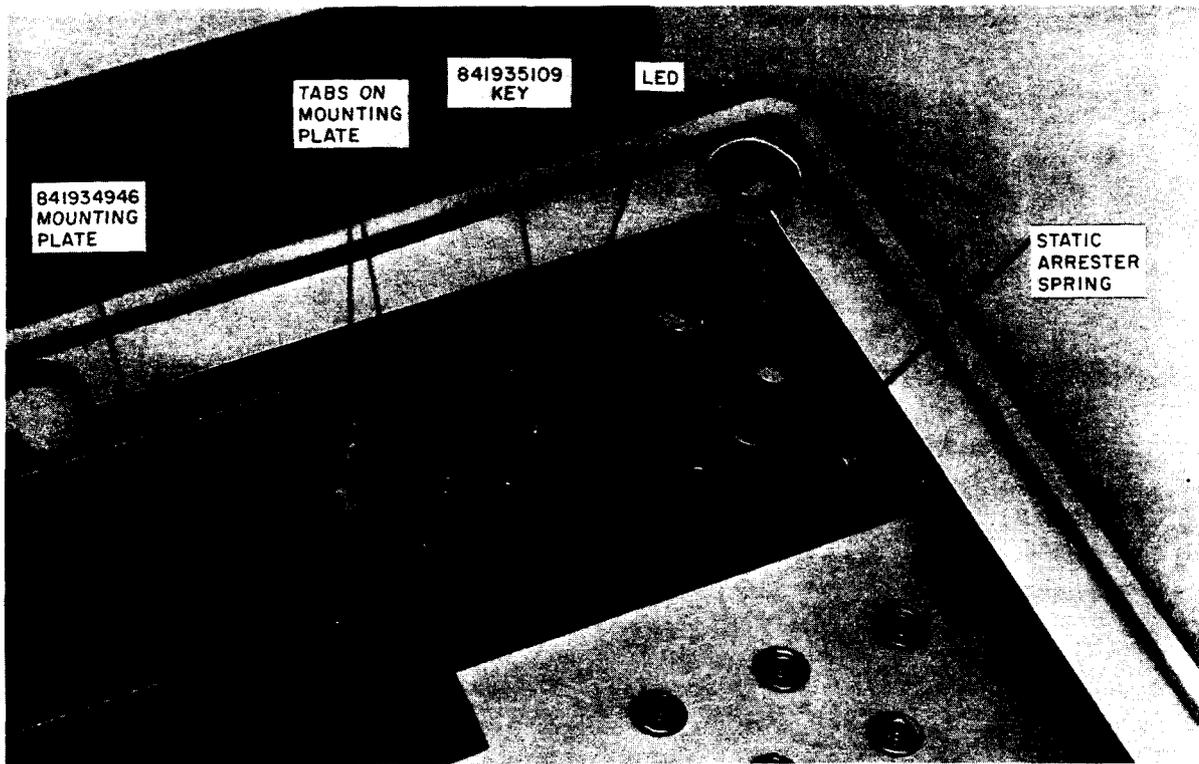

Fig. 7—5000AM With Faceplate Removed Showing Mounting Plate and 651G Key Installed
(2) Install 841934946 mounting plate and 841935109 key (Fig. 7) as follows:
(a) Remove screw holding static arrester spring (Fig. 7) and slide mounting plate under the spring. Replace the screw holding the spring and the associated lead. This should secure right side of mounting plate.